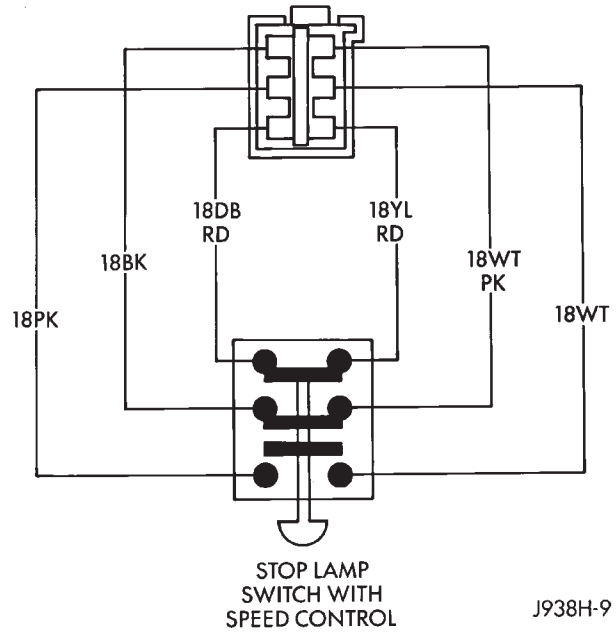

Fig. 3 Stop Lamp Switch Connector
(1) Unplug the connector at the stop lamp switch. With the brake pedal released, check switch for continuity at the switch side of connector (Fig. 3) as follows:
(2) With the brake pedal applied, check switch for continuity at the switch side of connector (Fig. 3) as follows:
(3) If the above results are not obtained, check the stop lamp switch adjustment. If adjustment is OK, replace faulty switch. Refer to Group 5 - Brakes for adjustment and service procedures.